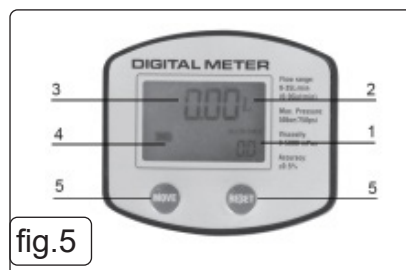

fig.5
5.4.1. User Buttons (fig.5)
Area 2 in fig.5 shows units